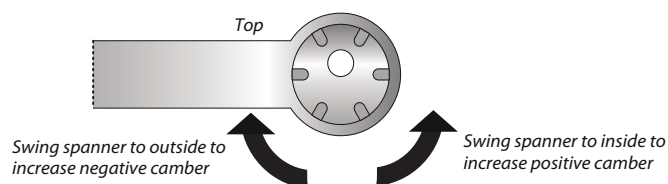

Figure 2: Inner bush orientation and camber adjustment
5. Using the supplied C45 spanner, twist the adjustable sleeve in the inner bush to the position shown in Figure 2, to aid fitting.
9. With the bolt for the inner bush still loose, adjust camber angle with the C45 spanner according to Figure 2.